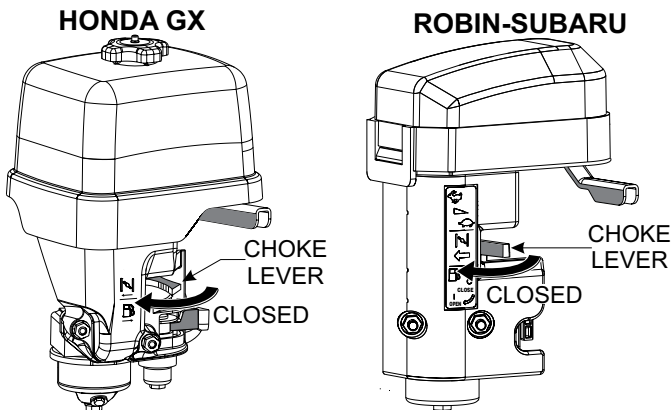

Figure 27. Choke Lever (Closed)
5. If starting a cold engine place the choke lever (Figure 27) in the **CLOSED** position.
8. If the engine has started, slowly return the choke lever (Figure 27), cold start only to the **CLOSED** position. If the engine has not started repeat steps 1 through 6.